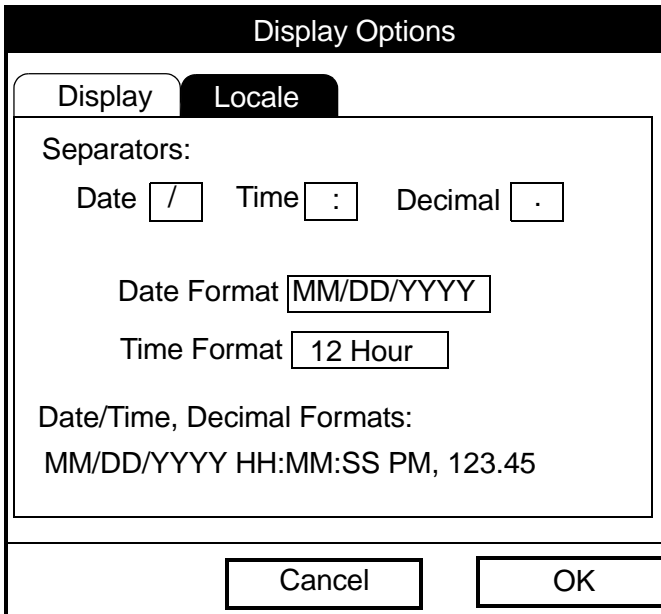

Figure 79: Format Tab in the Display Options Window
1. From the Meter menu, scroll to the Locale entry and press [ENTER]. The Display Options window opens on the Format tab, as shown in Figure 79 below. To step through each parameter, press the [▼] key.